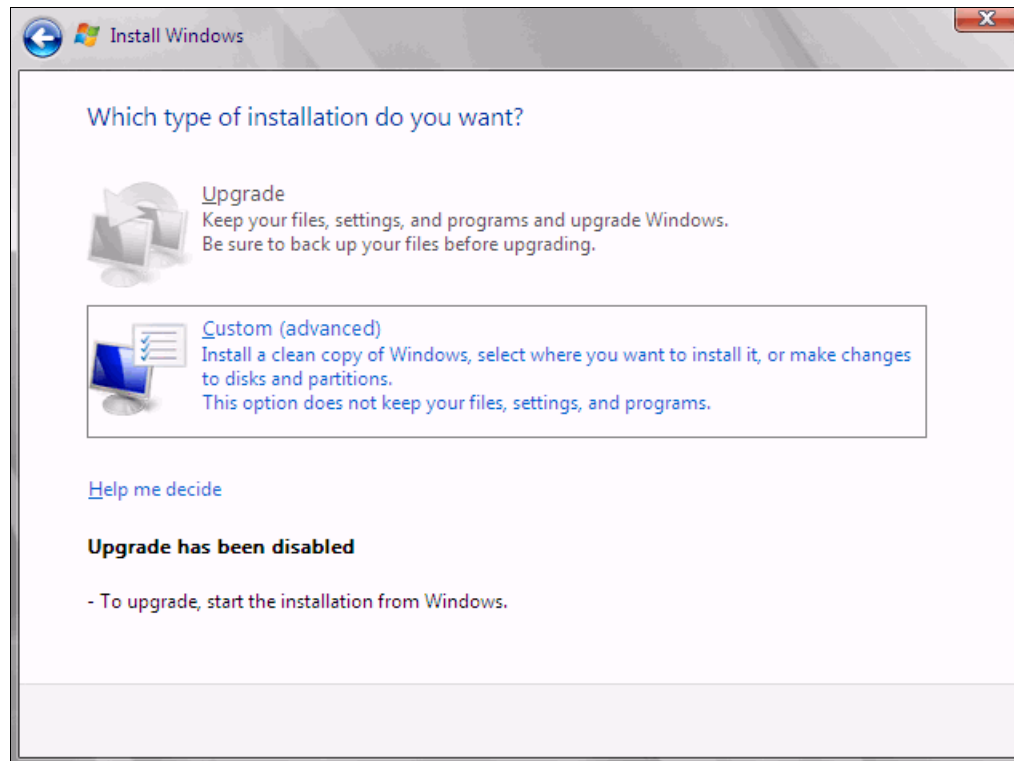

Figure 9-167 Installing a clean copy of Windows
11. In the installation type panel (Figure 9-167), select **Custom (advanced)** to install a clean copy of Windows.